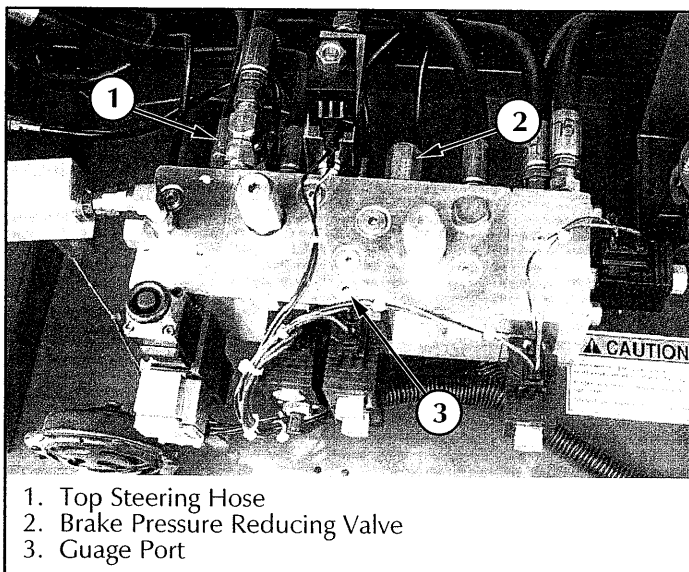

Figure 4-5: Hydraulic Manifold Assembly, Top View
2. Remove the gauge port plug (Figure 4-5) and install a 0-3000 psi (0-207 bar) pressure gauge assembly.
2. Remove the gauge port plug (Figure 4-5) and install a 0-600 psi (0-41 bar) pressure gauge assembly.
BRAKE PRESSURE REDUCING VALVE (Figure 4-5 & 4-6)